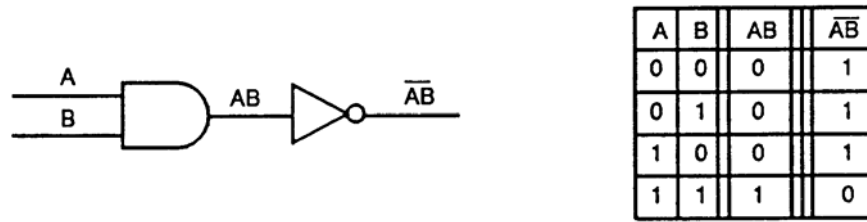

Figure Q-13. NAND Gate (alternate)
(4) The second way of constructing a NAND gate is to feed the inputs into an AND gate and then invert the output. This method and truth table are shown in Figure Q-13.